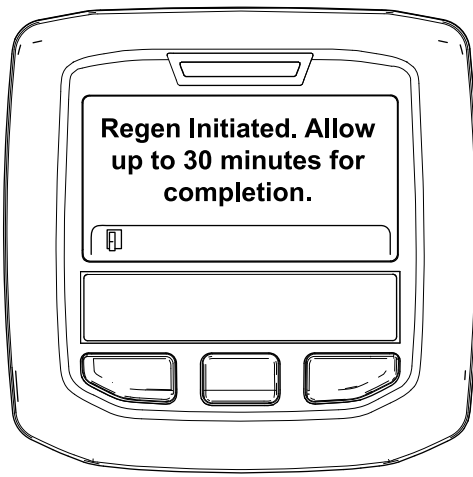

Figure 40
- If the regeneration is allowed, the "Regen Initiated. Allow up to 30 minutes for completion" message displays in the InfoCenter, wait for the machine to complete the parked regeneration process (Figure 40).